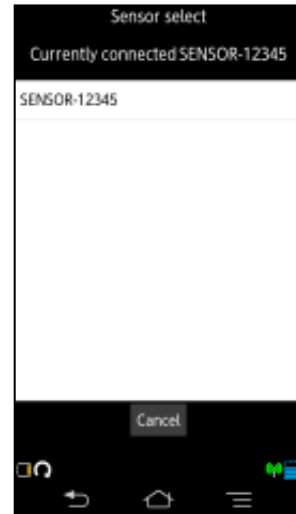

Figure 4-50 Sensor select screen
- (1) Tap Other: **[Sensor select]** menu. Then the sensor select screen (Figure 4-50) appears and shows the current setting and lists SSIDs of available sensor units which is located near and detected by Smartphone.
- (2) Tap a SSID to establish the communication with Smartphone. Then the screen returns to the main screen. And Smartphone establish the communication with the selected sensor unit. The color of the antenna mark shown at the right bottom of the main screen changes from Red to Green after the communication established.
- (3) In step (2), tap **[Cancel]** to cancel the setting change, then the screen returns to the parameter setup screen without setting change.
- (4) Tap **[Return to the main window]** to return to the main screen.